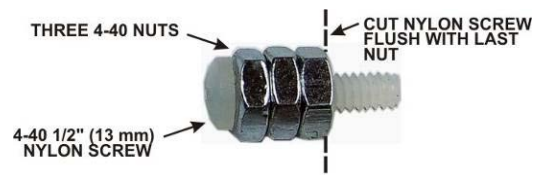
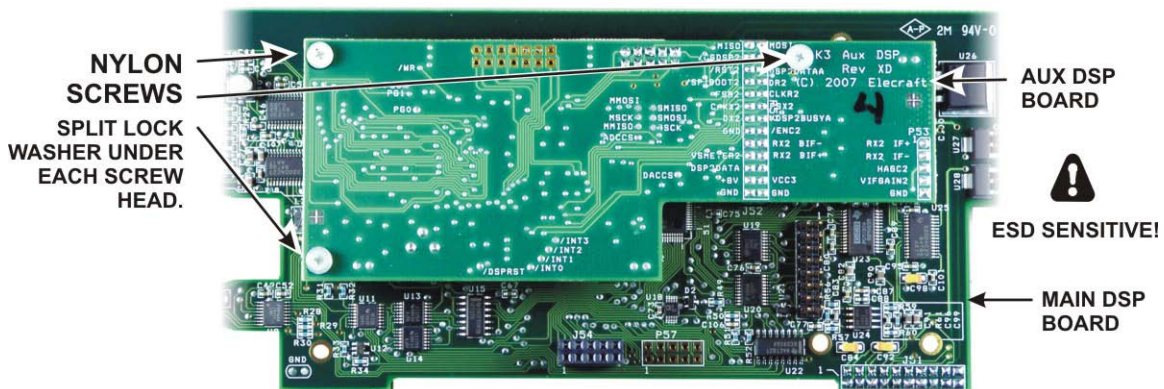

Figure 13. Cutting 1/2" (13mm) Nylon Screws.
Figure 18. Mating the Main and Auxiliary DSP Boards.
- Screw three 4-40 nuts onto the 1/2" (13 mm) 4-40 nylon screw as shown in Figure 13.
☐ Plug the aux DSP board into the main DSP board by mating P52 and P53 on the aux DSP board (at the narrow end) with J52 and J53 on the main DSP board. When seated, the connectors should be fully engaged with the aux DSP board resting against the standoffs with the holes in the board aligned for the screws (see Figure 18). Note that a two-row 10-pin connector at the top of the aux DSP board does not mate with anything on the main DSP board. That is normal. Attach the boards with three 4-40 1/4" (6.4 mm) **nylon** screws or the nylon screws you trimmed to length earlier (see Figure 13). Place a split lock washer under each screw head. Do not place washers between the standoff and the pc board. **Be careful tightening the nylon screws. Their threads strip easily.**